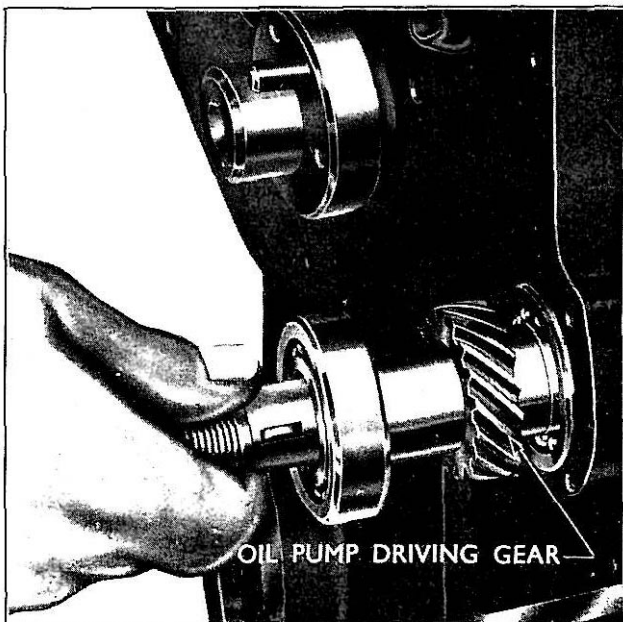

Fig. 72
- 2 Enter the shaft from the front of the block and tap it rearwards until the front bearing is flush with the front face of the block (see Fig. 72).